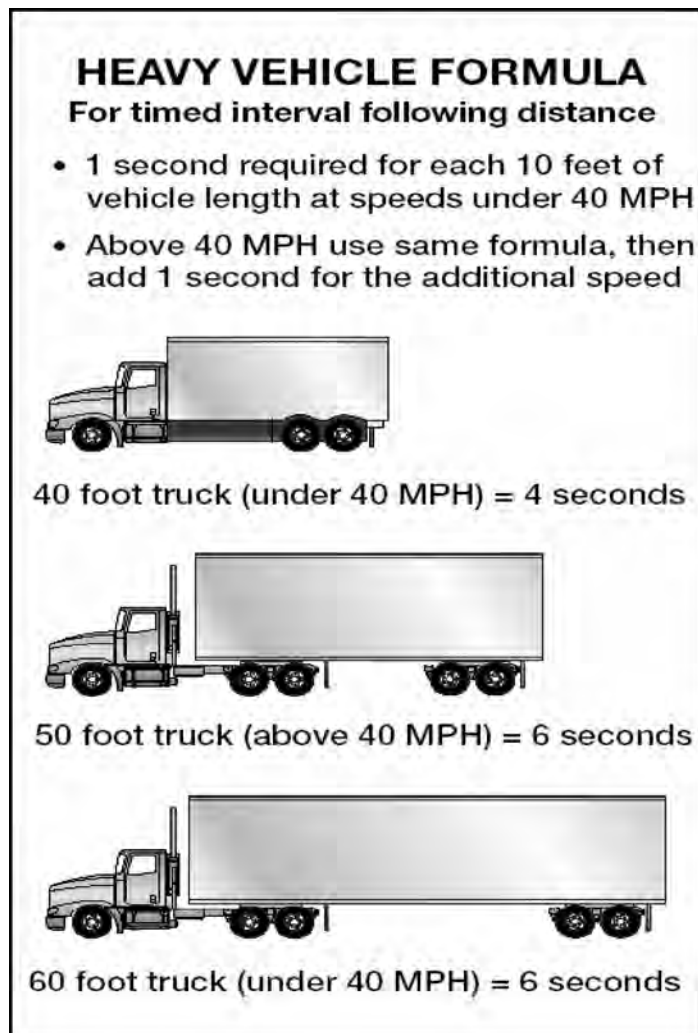

Figure 2.12
**How Much Space?** How much space should you keep in front of you? One good rule says you need at least one second for each 10 feet of vehicle length at speeds below 40 mph. At greater speeds, you must add 1 second for safety. For example, if you are driving a 40-foot vehicle, you should leave 4 seconds between you and the vehicle ahead. In a 60-foot rig, you’ll need 6 seconds. Over 40 mph, you’d need 5 seconds for a 40-foot vehicle and 7 seconds for a 60-foot vehicle. See Figure 2.12.